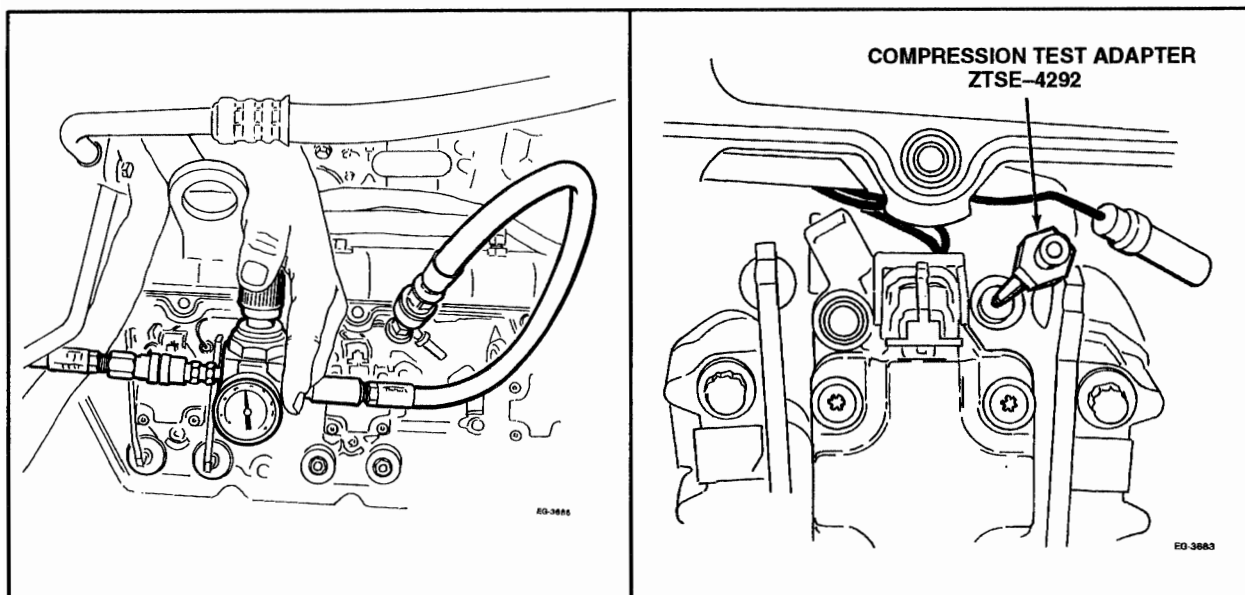

Figure 4.5. – Pressure Check for Combustion Leaks
- Install the compression adapter (ZTSE 4292) (Figure 4.5.) in the glow plug bore and adapt gauge end to accept shop air pressure (100 to 160 PSI).
- With shop air applied (Figure 4.5.) observe surge tank for escaping air. If the nozzle sleeve is leaking, air will escape into the cooling system when shop air pressure is applied and be seen as bubbles in the surge/overflow tank.